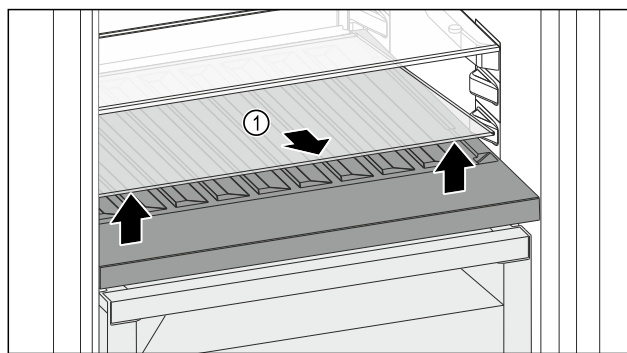

Fig. 139
- Lift the glass shelf Fig. 139 (1) at the front and remove.
- Store the glass shelf Fig. 139 (1) in a safe place outside the appliance.